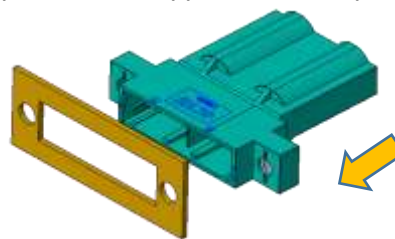

Figure 3
- II. Located connector to the panel on the opposite area of panel as shown Figure 3.